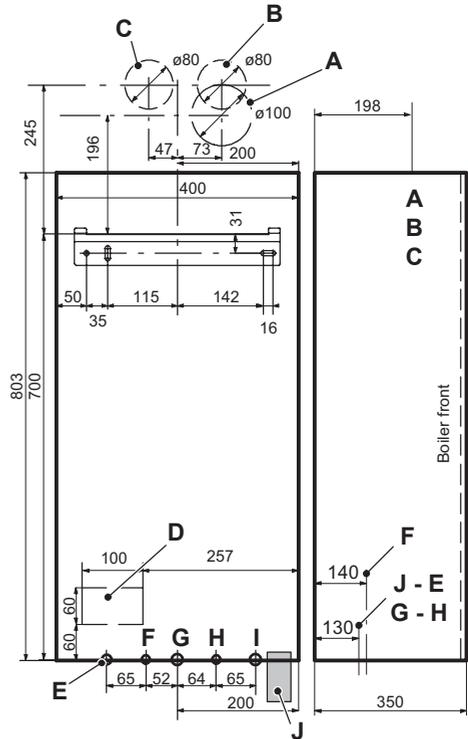

Fig. 6.2
- Fix the water valve "J" (1/2") to position "H" (Fig. 6.2) using the 1/2" gasket.
- Fix the C.H. valves "A" to position "E" and "I" (Fig. 6.2) using the 3/4" gaskets.
- Fix the gas cock "B" to position "G" (Fig. 6.2) using the 3/4" gasket.
- Fix the Ø 15 mm copper pipe "F" to position "F" (Fig. 6.2) using the 15 mm gasket.